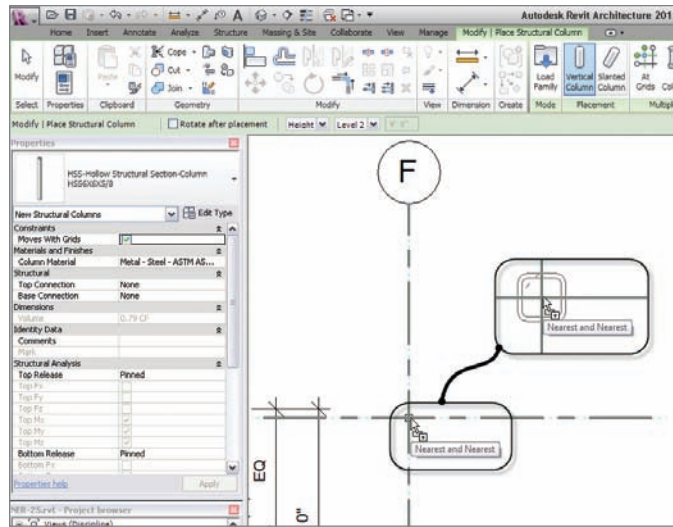

FIGURE 8.24 Placing the column on grid intersection F-1
10. On the Options bar, make sure Height is set to Roof, as shown in Figure 8.24.